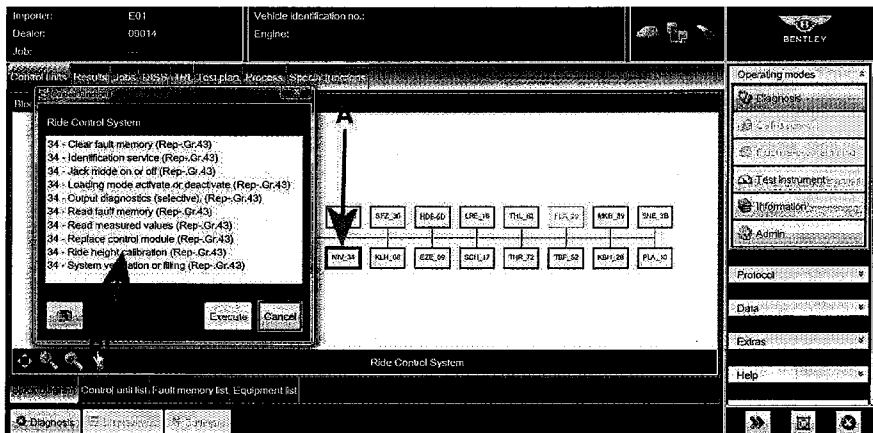

Figure 9
- Referring to Figure 9 - Navigate to the Block diagram screen - Select NIV 34 – Ride Control System (Point A)